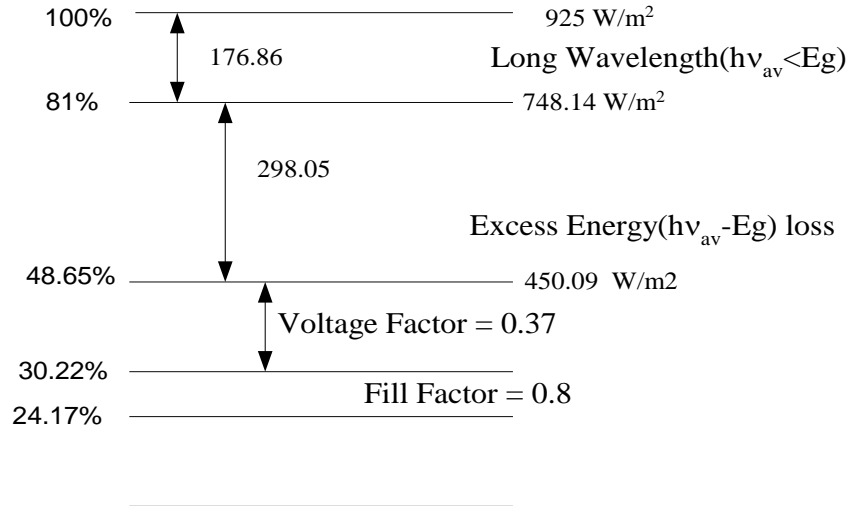

Fig. 5. Four losses in a solar cell receiving 925 W/m^2 at an Air Mass $m = 1$.
(a) Show that the long wavelength loss is 176.86 W/m^2 [(925 - 748.14) as shown below in Fig. 5] for Air Mass $m = 1$ condition.
Q.6(a). How do the excess carriers recombine in forward biased Si diode Fig.5(a) and GaAs diode of Fig. 5b (whose energy band diagram is shown in Fig. 6, respectively.)?